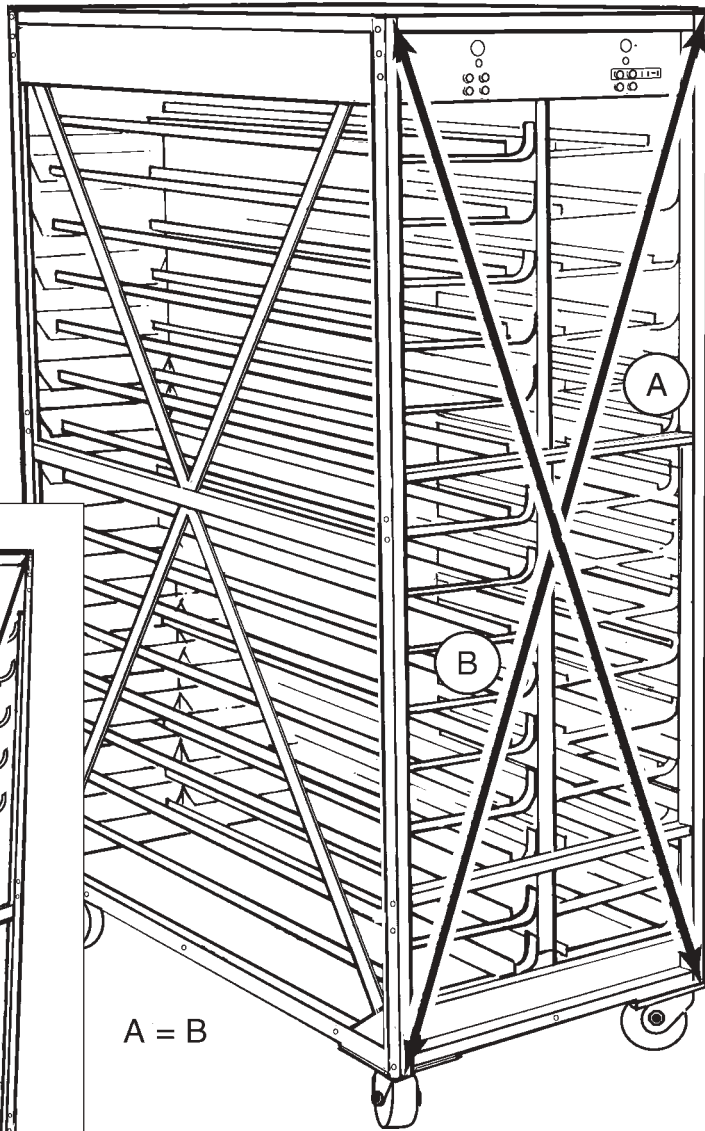

Figure 25: Checking for Squareness from the Front of the Rack
Step 21: Check for squareness using either the front or the back of the incubator rack as in Figure 25.